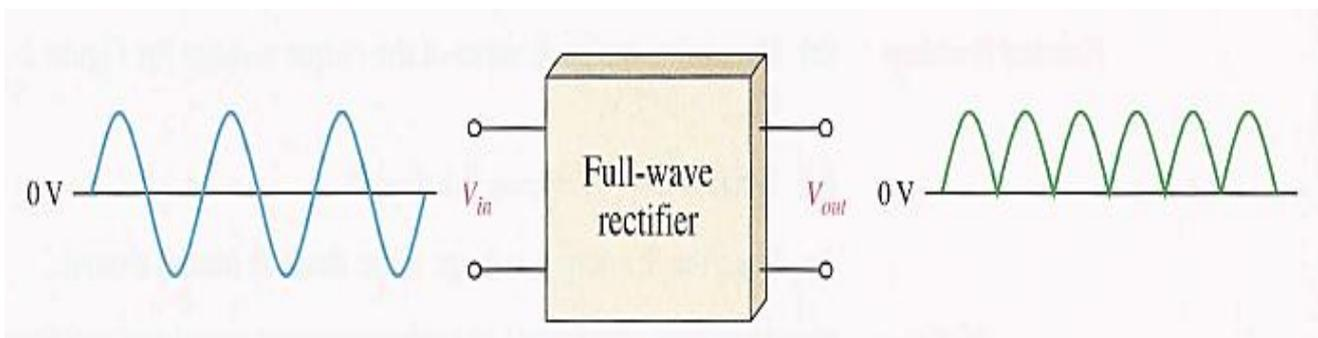

Figure 2-7 Full-Wave Rectifier
The output voltage waveforms are shown in Figure 2-7. Note that the barrier potential could have been neglected in circuit (b) with very little error (0.7 percent); but, if it is neglected in circuit (a), a significant error results (14 percent).
► FIGURE 2-7
A full-wave rectifier allows unidirectional (one-way) current through the load during the entire 360° of the input cycle, whereas a half-wave rectifier allows current through the load during one-half of the cycle. The result of full-wave rectification is an output voltage with a frequency twice the input frequency that pulsates every half-cycle of the input, as shown in Figure 2-7